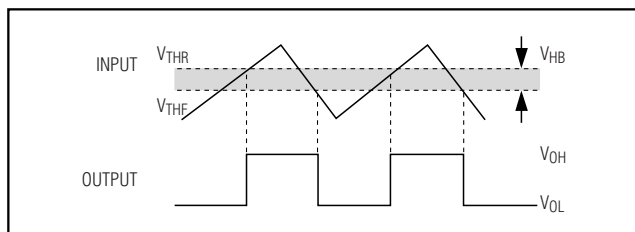
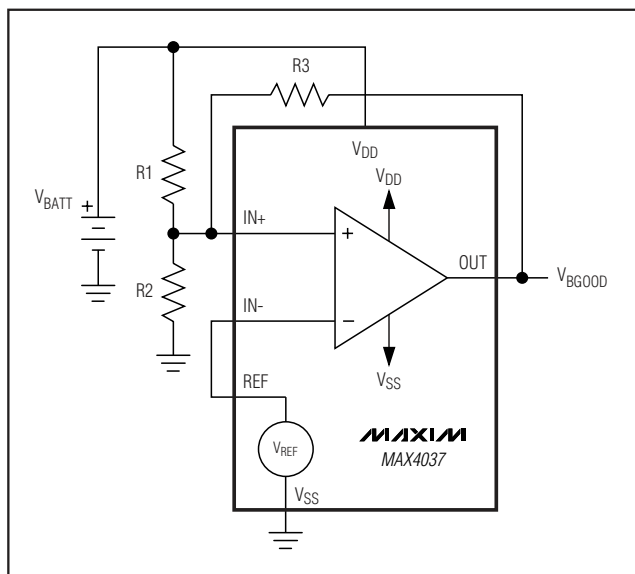

Figure 3. Hysteresis
Figure 4. Battery Monitoring
Although optimized for use as an operational amplifier, the MAX4036–MAX4039 can be used as a rail-to-rail I/O comparator (Figures 3, 4). External hysteresis can be used to minimize the risk of output oscillation. The positive feedback circuit, shown in Figure 4, causes the input threshold to change when the output voltage changes state.
The internal reference and low operating voltage of the MAX4037/MAX4039 make the devices ideal for battery-monitoring applications. Hysteresis can be set using resistors as shown in Figure 4, and the following design procedure:
- 2) Choose the hysteresis voltage ( $V_{HB}$ ), the voltage between the upper and lower thresholds. In this example, choose  $V_{HB} = 50mV$  (see Figure 3).